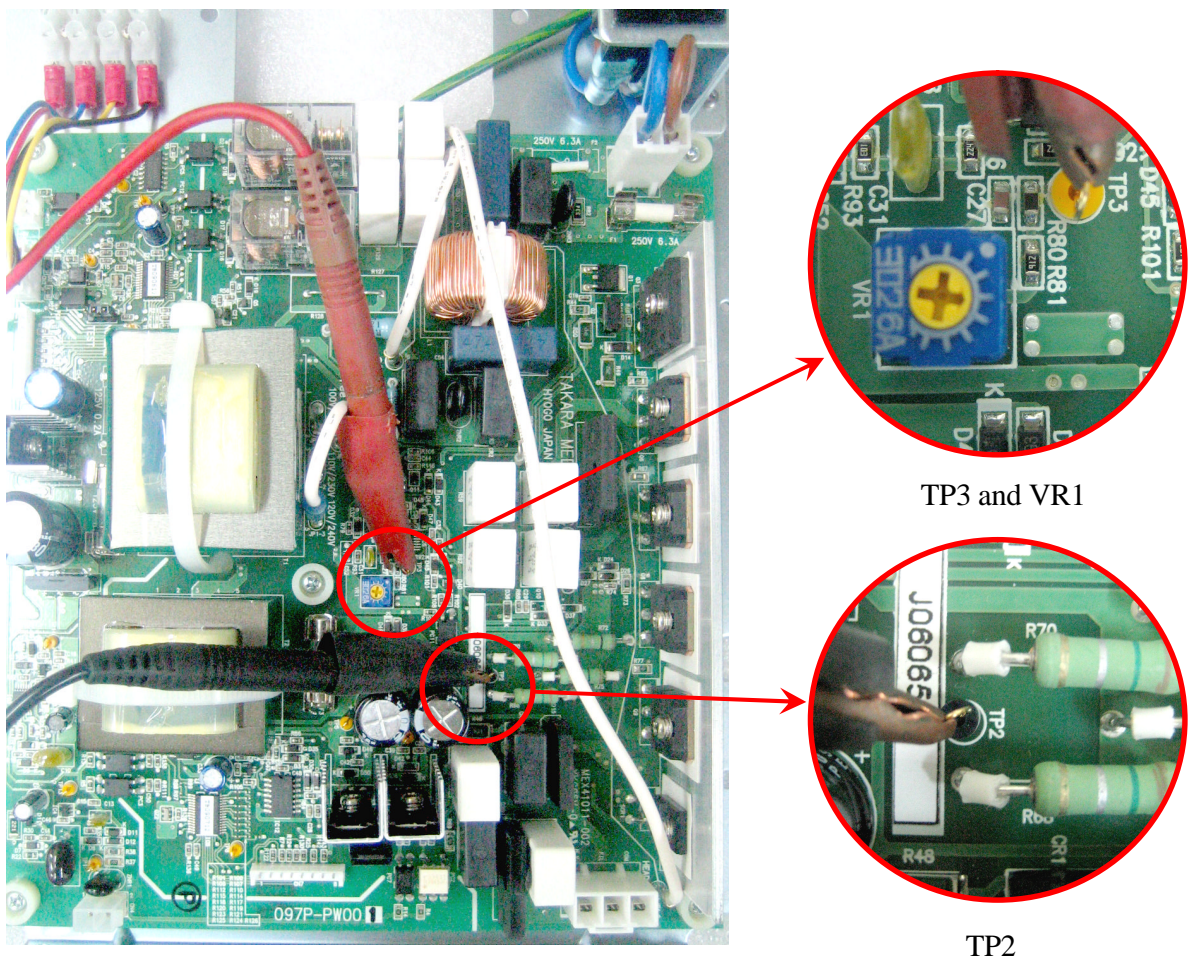

FIGURE 4B. TP2, TP3 and VR1 on the Power Generating PCB
3. Turn off the main switch . Open the front panel of the main controller and connect one lead of multimeter to "TP3" a wire ring test terminal on the power generating PCB. Connect the other lead of multimeter to "TP2" test terminal on the power generating PCB. (Refer to FIGURE 4B.)